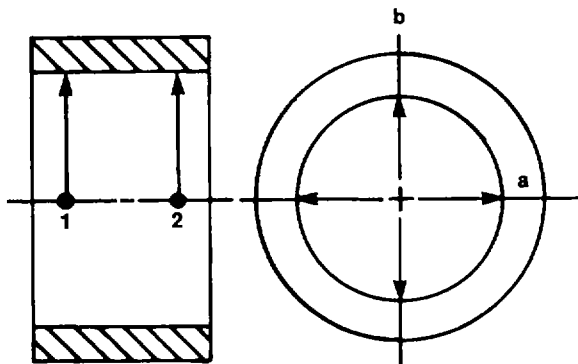

Figure 4-20. Measuring Piston Pin Bushing Connecting Rod Bearing Bore
9. Mount bearing caps and tighten bolts (5) according to torque specifications listed in Appendix F.
- i. Measure connecting rod bearing bore at points 1 and 2 in planes a and b (figure 4-20). Note any contraction, out-of-roundness, or conicity.
- b. Measure the piston pin bush at points one and two in planes a and b (figure 4-20).